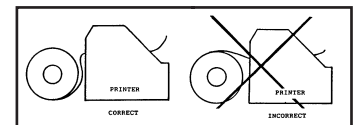

Figure 1.
- Place a till roll into the tray behind the printer on the right. (Figure 1.)